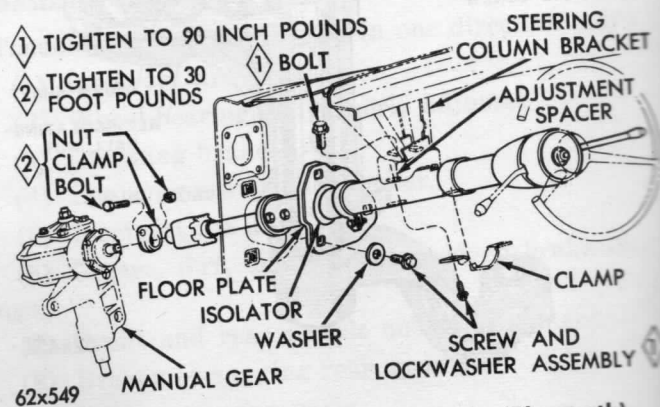

Fig. 4—Steering Column Assembly (Plymouth)
(2) Remove the bolt from the coupling clamp at the upper end of steering gear wormshaft.
(3) To provide sufficient clearance at the coupling, loosen the column jacket to instrument panel clamp bolts (Figs 4 and 5), sufficient to disengage the tab on the clamp from the slot in the column